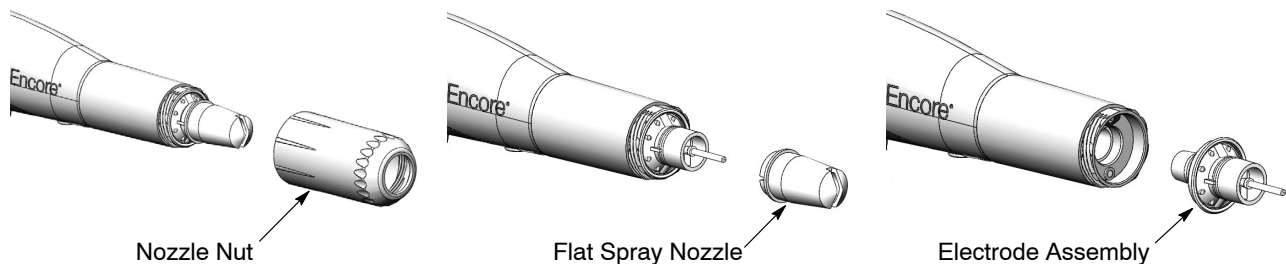

Figure 4-7 Changing a Flat Spray Nozzle
2. See Figure 4-7. Unscrew the nozzle nut counterclockwise.